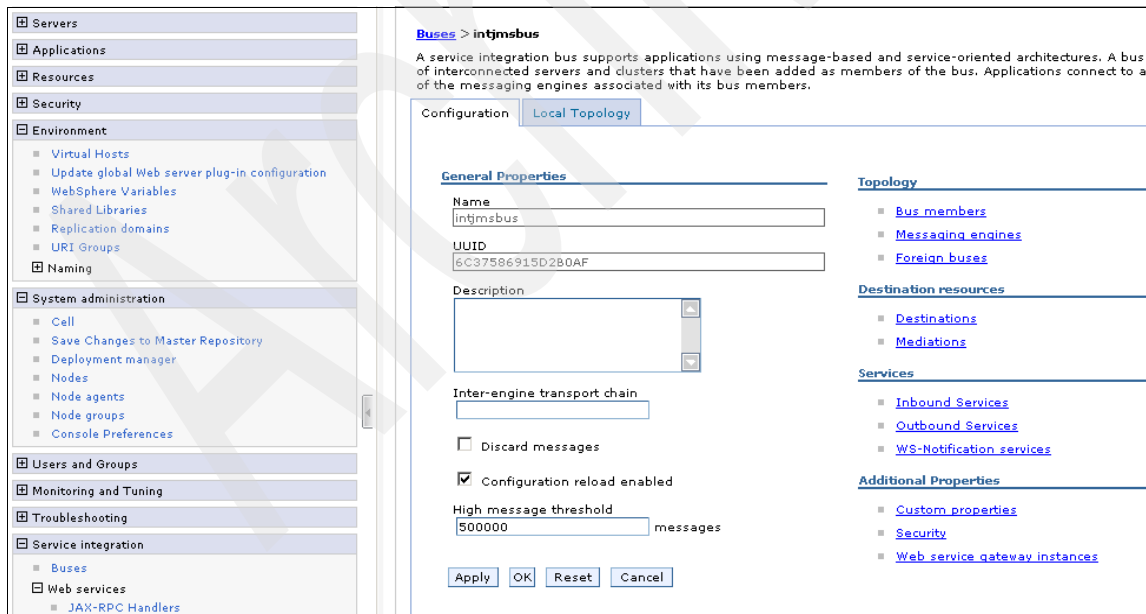

Figure A-30 High message threshold
6. From Buses, select **intjmsbus**. Change the value of the High message threshold field to a minimum value of 500,000 messages, and click **Apply**, then **Save** (see Figure A-30).